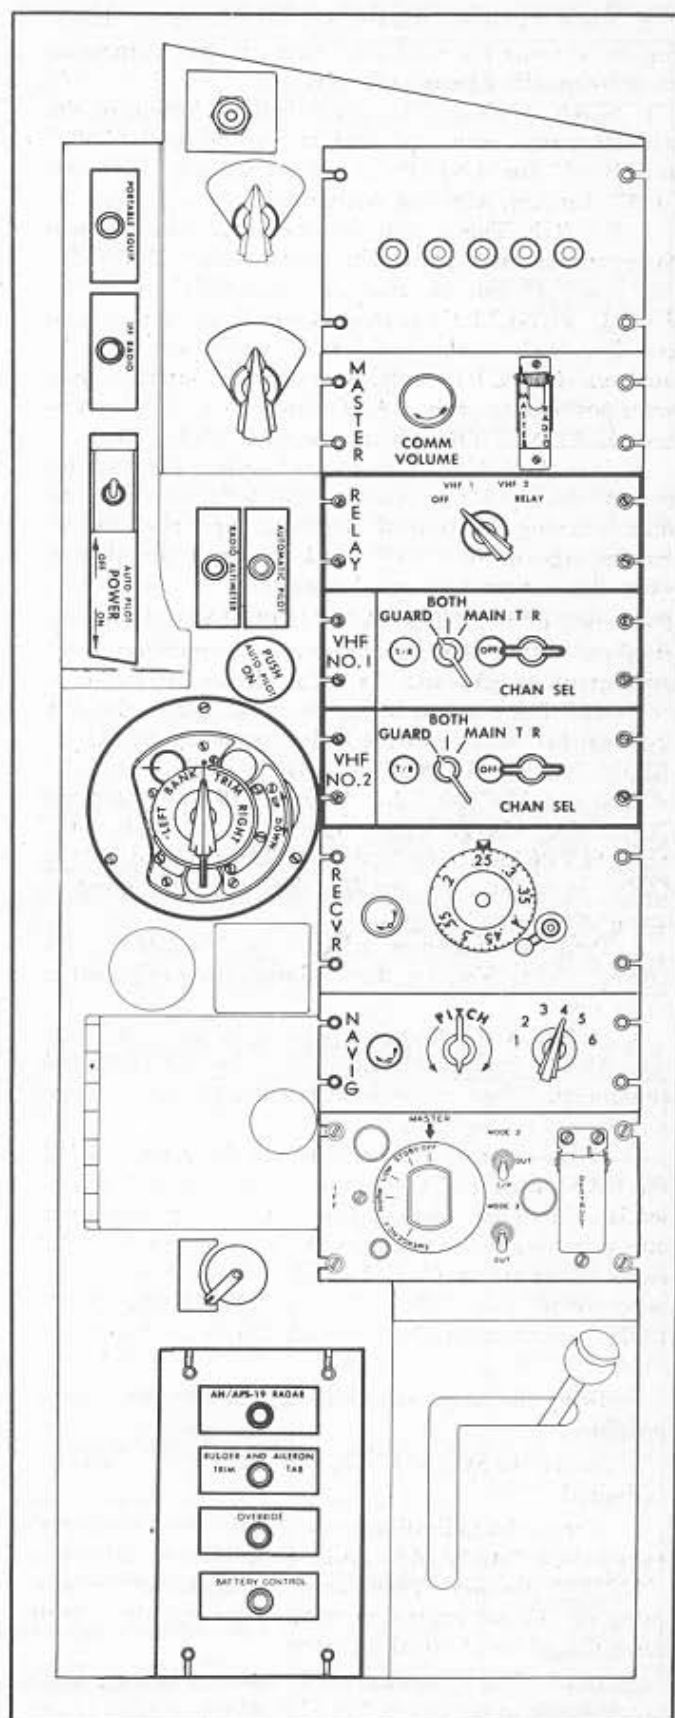

Figure B-3. Right-Hand Console
B-19. OPERATION. All controls required for operation of the AN/APX-6 equipment are located on Radar Set Control C-544/APX-6. This unit is located at the aft end of the right-hand control shelf (figure B-3). Operation is as follows:
b. To indicate emergency or distress, press red dial stop (figure B-3) and rotate MASTER selector to "EMERGENCY."
B-24. DESCRIPTION. (See figure B-3.) The AN/ARC-28 communication equipment enables the airplane to serve as a relay point for extending the range of two-way VHF radio communication with modulated signals, as, for example, between a ground station or ship and a second aircraft in flight. By this method the equipment is capable of extending consistent VHF communication beyond the ordinary horizon limitation. The AN/ARC-28 equipment is made up of two Radio Transmitter-Receivers (RT-18/ARC-1) interconnected by a relay unit and three pilot control units located on the right-hand control panel and designated as: (1) RELAY, (2) VHF NO. 1, (3) VHF NO. 2. There are no individual transmitting-receiving facilities while the system is in "RELAY" operation. When not in "RELAY" operation, the pilot may select either the VHF NO. 1 or VHF NO. 2 transmitter-receiver for operation. Three protective circuit-breakers for the communication system are
B-25. AUTOMATIC RELAY OPERATION. For automatic relay operation, see figure B-3 and proceed as follows: